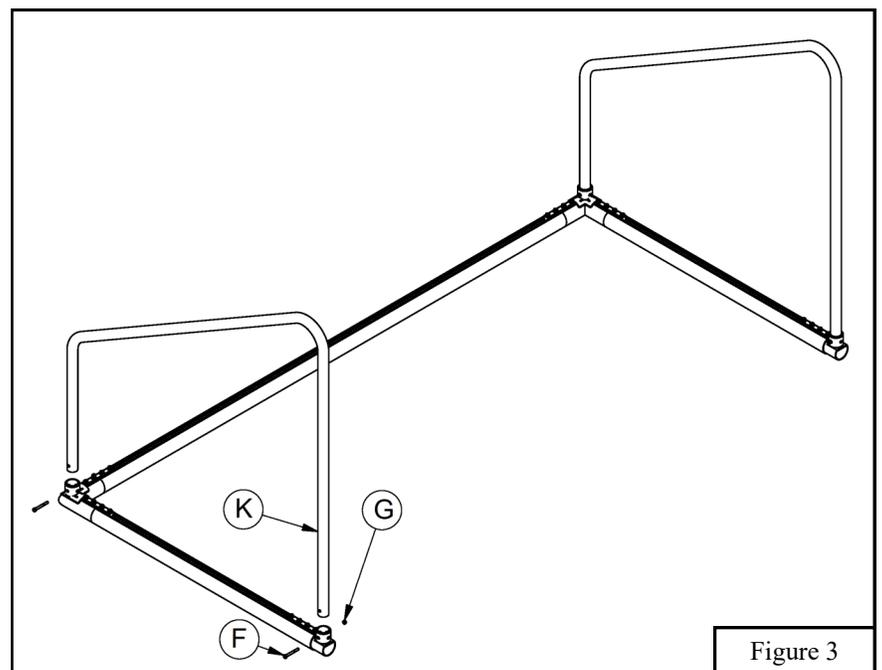

Figure 3
5. With the crossbar/upright assembly still lying on the ground insert the *Backstay* (K) into the two backstay sockets. You may need to apply minor pressure to the goal assembly to align both ends. Use $5/16'' \times 2 \ 3/4''$ *Hex Bolts* (F) and $5/16''$ *Nylon Lock Nuts* (G) to secure. See Figure 3.